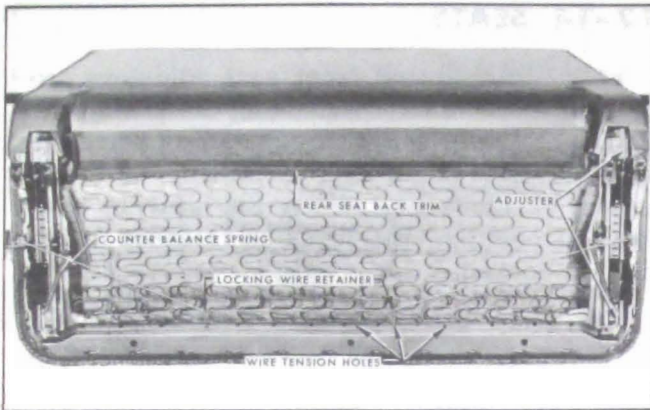

Figure 13-57 — Front Seat Adjuster
2. Remove seat adjuster counter balance spring attached to seat adjuster front support and seat bottom frame as shown in Figure 13-57.
5. Remove adjuster-to-seat bottom frame front and rear attaching bolts shown in Figure 13-57 and remove seat adjuster from seat assembly.
7. If right adjuster does not lock or unlock satisfactorily when control handle on left adjuster is operated, disengage locking wire retainer on right side of seat from hole in seat bottom frame and engage retainer in one of adjacent holes to obtain proper tension in wire. See Figure 13-57.
2. Remove hog rings securing central portion of lower rear edge of seat back trim from front seat cushion spring assembly. See Figure 13-57.